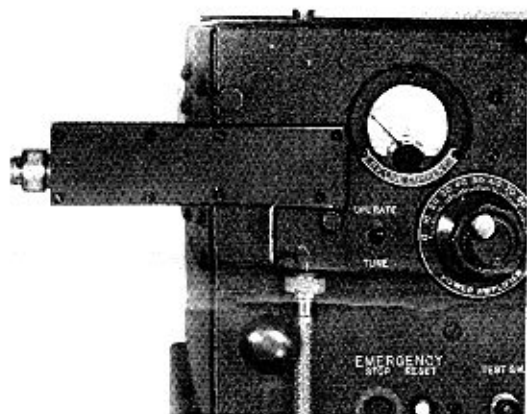

FIGURE 2
3. INSTALLATION: The filter may be mounted in either of two positions as shown in figures 2 and 3, as follows: